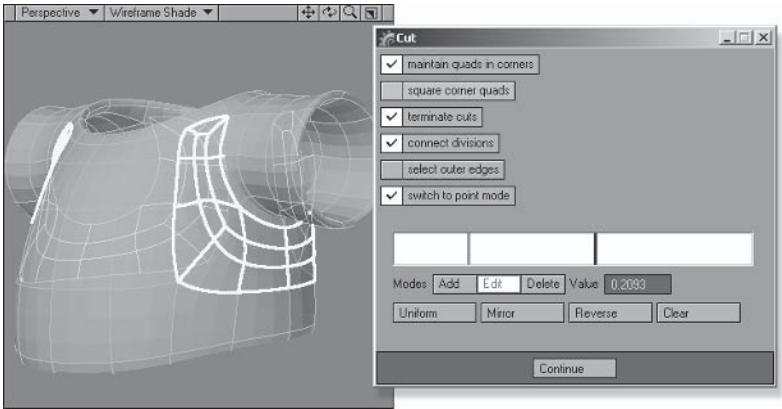

Figure 5.5-37. Cut settings.
2. Select the **Cut** tool. Add a new segment and use the other settings from Figure 5.5-37.